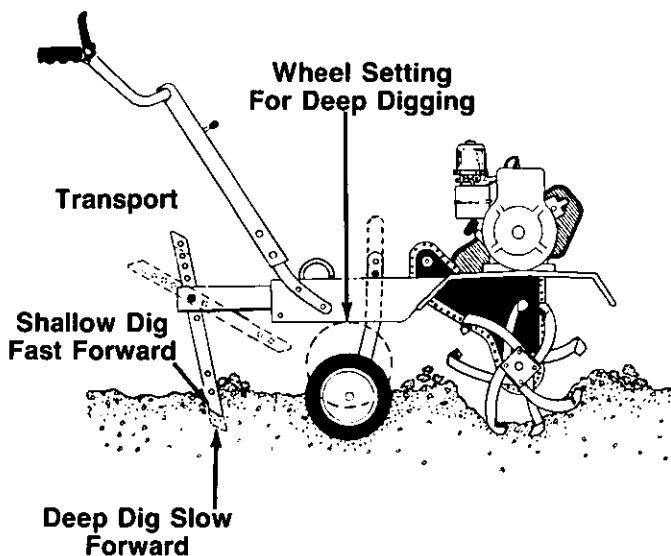

FIGURE 24.
- 2. Depth Bar Adjustment:** The depth bar acts as a brake for the tiller and controls the depth and speed at which the machine will operate. See figure 24. Remove the clevis pin and hairpin cotter to raise or lower depth bar.
To transport the tiller to or from the garden, raise the depth bar to the highest position. See figure 24. With the throttle control in SLOW position, the unit will move under its own power, without damaging grass areas as long as it is allowed to move freely. If the operator holds back, it will start to dig.